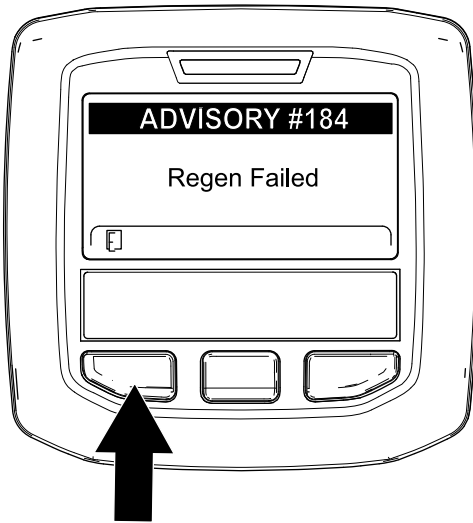

Figure 81
**Note:** If the regeneration fails to complete, the InfoCenter displays Advisory #184 (Figure 81). Press the left button to exit to the home screen.